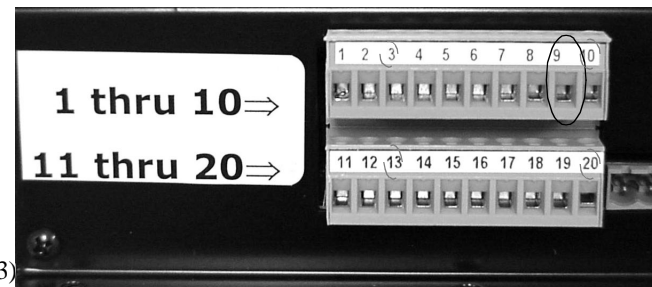

Figure 43. Service Extend
1. Connect momentary or latching contacts to ground terminal (terminal #3, #10, #13 or #20) and terminal #9 (see Figure 43)